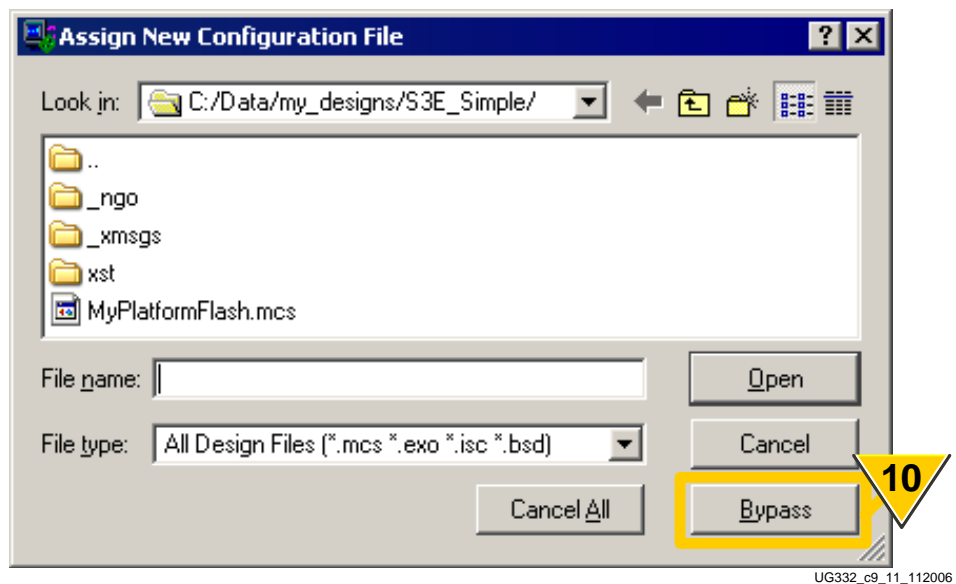

Figure 9-13: Click Bypass to Skip CPLD Programming
10. Similarly, click Bypass to skip programming of the CPLD, as shown in Figure 9-13.